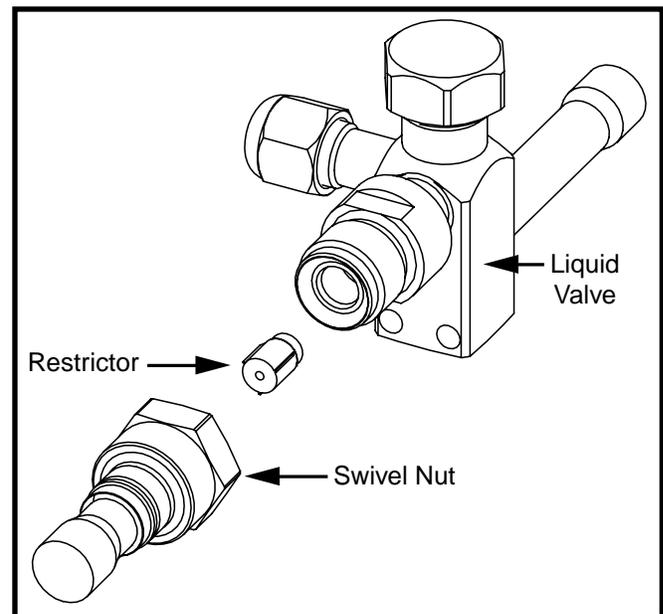

Figure 2. Liquid Valve, Restrictor, & Swivel Nut Adapter
If the outdoor unit has the liquid valve shown in Figure 2 then the restrictor is located inside the swivel nut
4. Insert the new orifice into the valve body, with the rounded end facing into the valve. See Figure 2, \(page 4\).